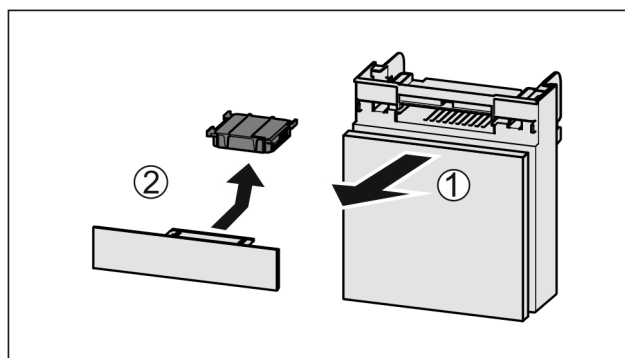

Fig. 110
- Pull out the compartment Fig. 110 (1).
- Remove the carbon filter Fig. 110 (2).